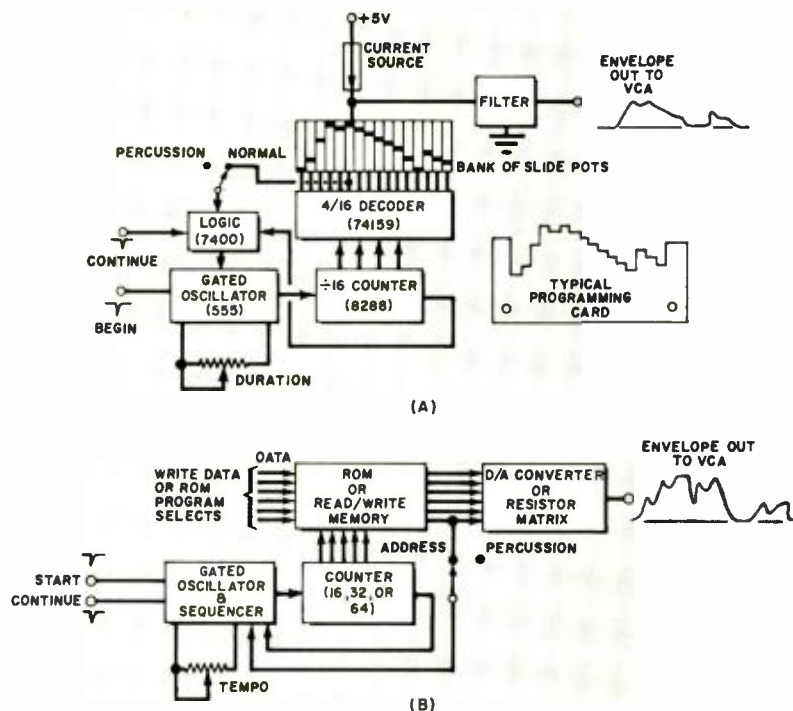
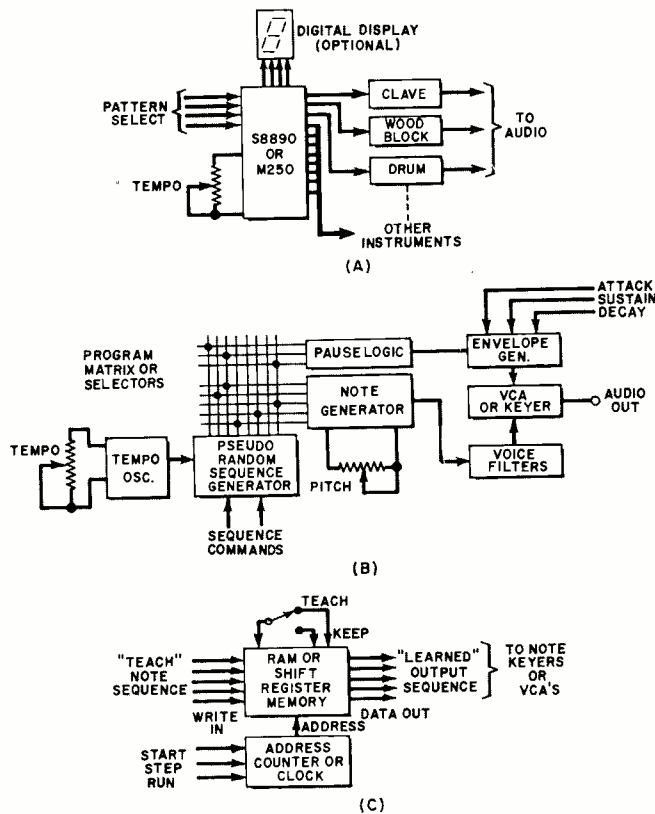

Fig. 5. Output of binary counter is shaped by programmed pots in (A). In (B), pots are replaced by digital memory.
Fig. 6. Sequencer techniques: (A) has rhythm generator; (B) generates random patterns; (C) is teach/learn device.
Purely digital techniques can also be used for generating the envelope, but as of now, their added complexity limits them to monophonic instruments or, at best, to a time-shared or priority hierarchy in an instrument. Two typical digital circuits are shown in Fig. 5.
**Sequencers.** Three popular sequencer techniques are shown in Fig. 6. A sequencer governs the order and combinations the notes follow, rather than the shape of each individual note. Technique (A) has a rhythm generator or sideman. An early version of these circuits appeared in *POPULAR ELECTRONICS* as the "Drummer Boy" (July 1971). Today, you can do the whole thing with a single S8890 IC from American Microsystems, Inc. (3800 Homestead Rd., Santa Clara, CA 95051) or the M250 IC from SGS-ATES (435 Newtonville Ave., Newtonville, MA 02160). The IC's are available at about \$25 in unit quantities. Both IC's generate the combination rhythm patterns for rhythm accompaniment and are available in a standard pattern (traditional rhythms) as well as in custom patterns at much higher cost. Electrically, the IC's operate in much the same manner as circuit (B) in Fig. 5.
Circuit (B) in Fig. 6 is a composer/synthesizer that employs a pseudo-random sequencer to generate ran-
Circuit (C) in Fig. 6, a variation of circuit (B) in Fig. 5, is a teach/learn sequencer. A commercial version called the Model DS-2 is available from Oberheim Electronics (1549 Ninth St., Santa Monica, CA 90401). Teach/learn devices of this type can employ either RAM's or shift-register memories. One good choice for experimenters would be the Signetics hex 32- and hex 40-bit shift registers (2518 and 2519), particularly since they are beginning to appear on the so-called "surplus" market for as little as 25¢ each. Brand new IC's directly from the factory are currently selling for less than \$5 and form the basis for many teach/learn music experiments. ♦